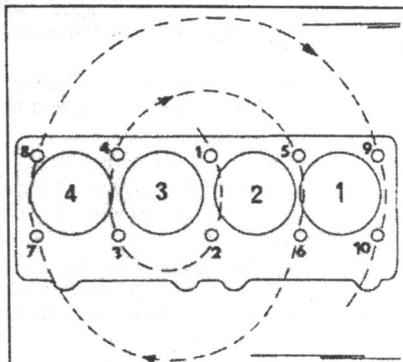

Fig. 1.43. — The tightening sequence for the cylinder head bolts. Valid for all engines.
The cylinder head bolts are now tightened in the sequence shown in Fig. 1.43.
- Slacken all bolts in the reverse order to the one shown in Fig. 1.43 and re-tighten them in the order 1 to 10 to 2.0 kgm (14.5 ft.lb.).
- Slacken all cylinder head bolts in the reverse order to the one shown in Fig. 1.43 and tighten them in numerical sequence to 2.0 kgm (14.5 ft.lb.).
- Tighten the remaining cylinder head bolts in the order shown in Fig. 1.43. *Read the note above if you have omitted one of the bolts during the angle-tightening.*
- Tighten the bolts in the order shown in Fig. 1.43 to 6.0 kgm (43.5 ft.lb.). Only use a "Torx 55" insert to prevent damage to the bolt heads. "Torx" socket inserts are available in sets containing various sizes, but make sure a "55" is included.
After the vehicle has been driven with the new cylinder head gasket approx. 1300 miles, slacken each bolt in the order shown in Fig. 1.43 (never more than one bolt at a time) and re-tighten it immediately to 2.0 kgm (14.5 ft.lb.).
- Re-tighten each bolt in the order shown in Fig. 1.43 by a quarter of a turn, as described for this engine.